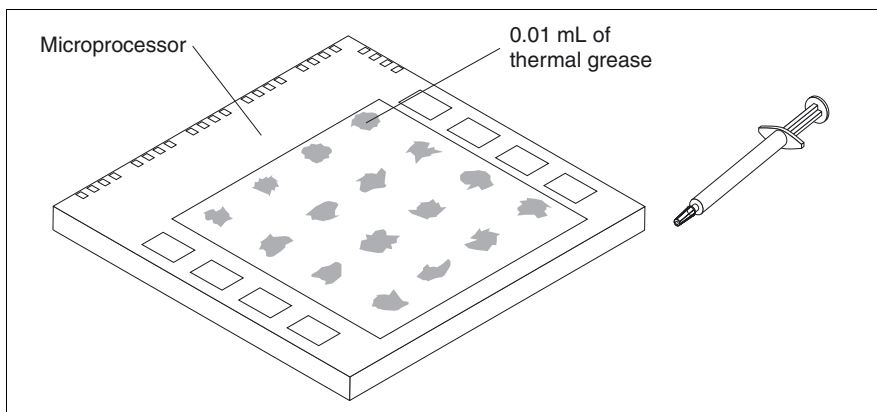

Figure 19: Applying thermal grease to the microprocessor surface with a syringe
- ▶ Use the thermal-grease syringe to place 16 uniformly spaced dots of 0.01 mL each on the top of the microprocessor (see figure 19).